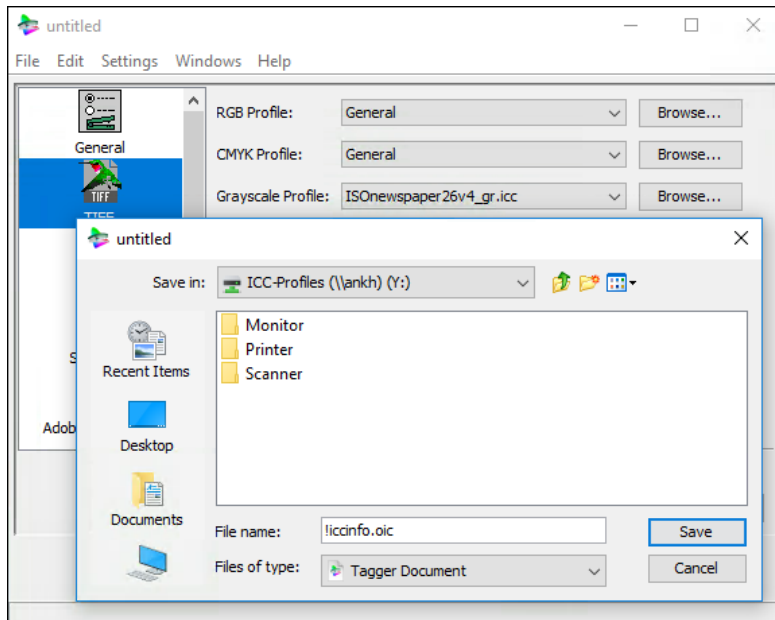

Fig. 5.3: Saving an ICC info file
- Click the `save` button to open the dialog that lets you select the destination folder (Fig. 5.3).